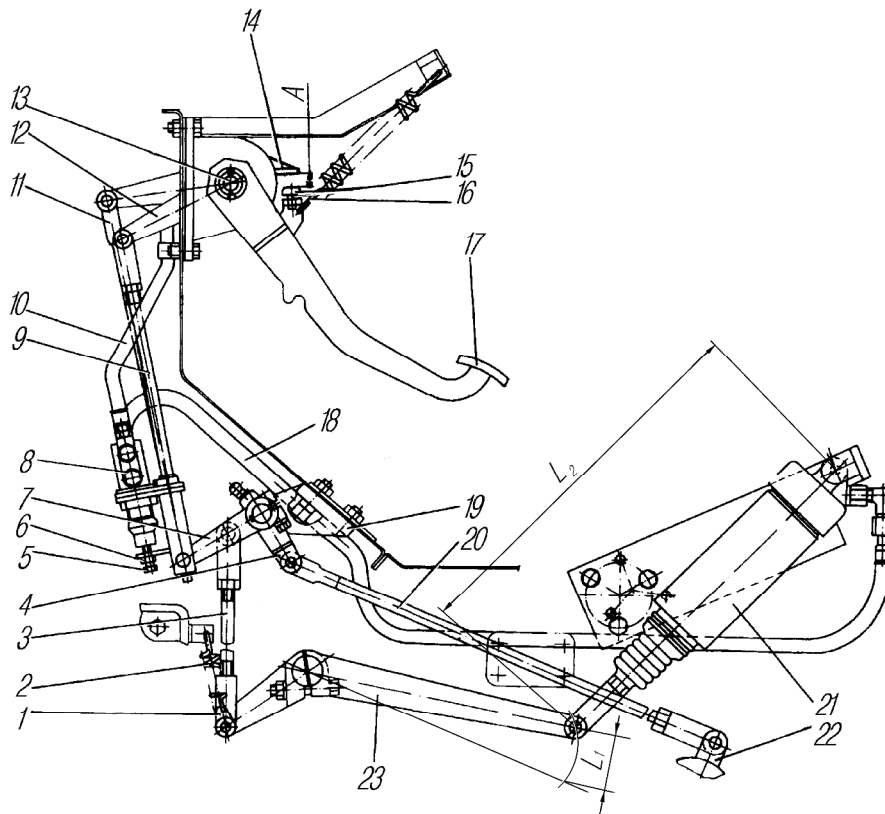
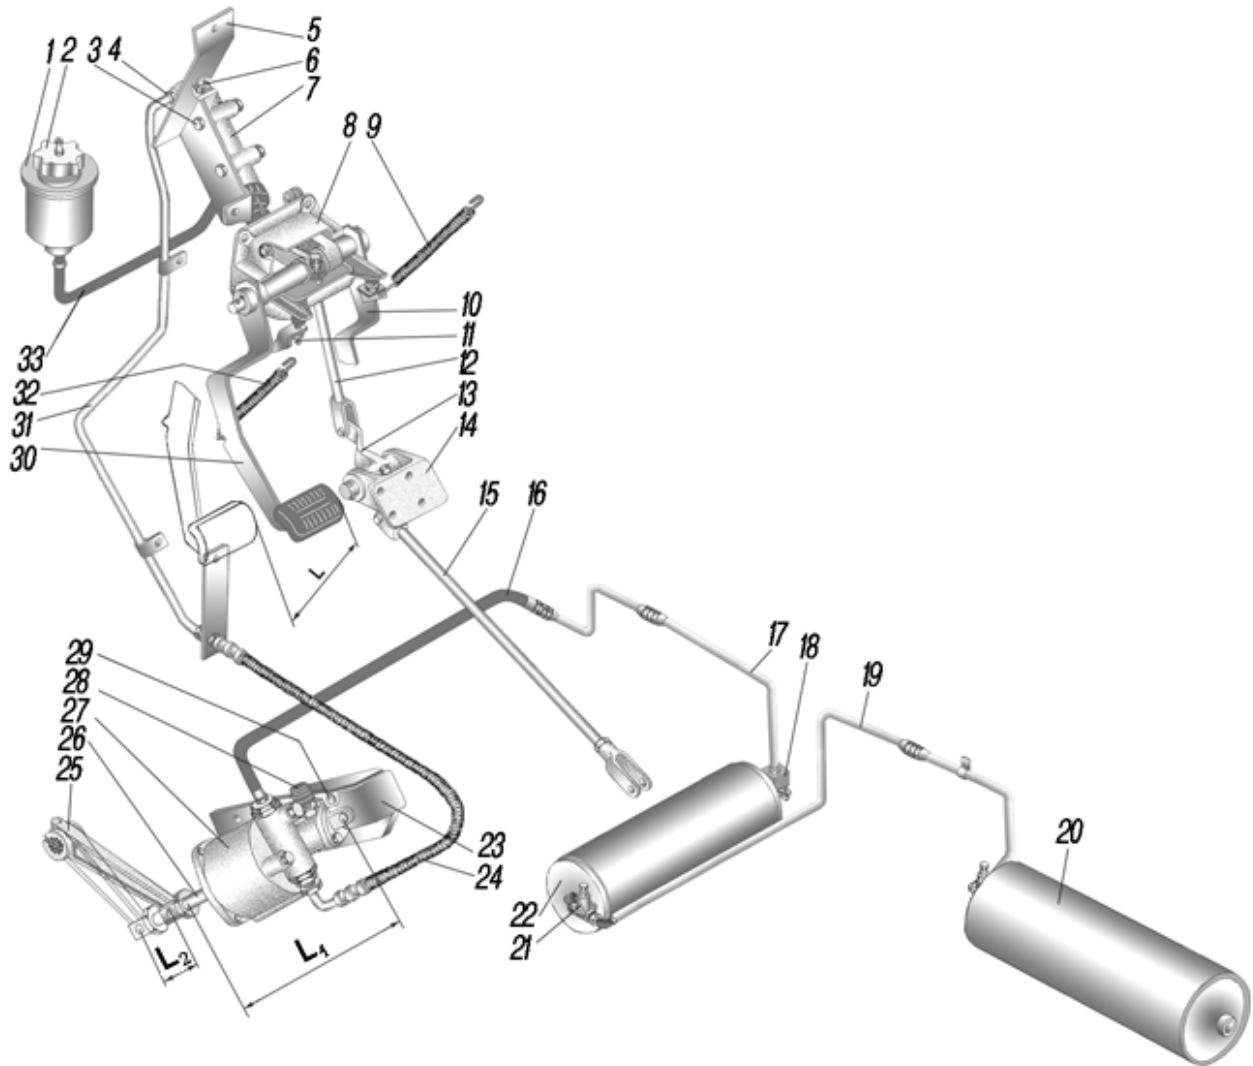
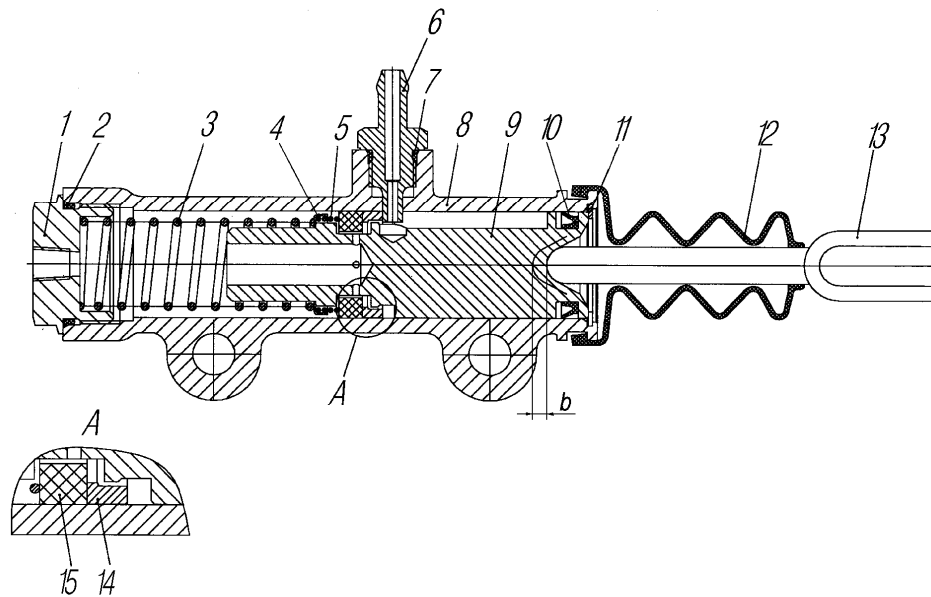

Fig. 129. Diaphragm Clutch with Air Booster and Brake Valve Control:
Fig. 130. Clutch Release Control:
Fig. 131. Master Cylinder:
When mounting the power unit with a diaphragm clutch, the clutch control design will be modified and will be of two types: mechanical clutch release control with an air booster (Fig. 129) and hydraulic clutch release control with an air - hydraulic booster (Fig. 130).
Booster air cylinder 21 (Fig. 129) is mounted on the gearbox housing and acts on clutch release fork shaft lever 23. The cylinder is controlled by air valve 8, which is mounted on tie rod 9.
Master cylinder 7 (Fig. 130) is fitted in the engine compartment and secured on a bracket to the front cab panel. Pusher 13 (Fig. 131) acts on the piston, which is connected with pedal mechanism 8 through a lever (see Fig. 130).
Clutch Master Cylinder. The design of the master cylinder is shown in Fig. 131. If repair is necessary, when assembling fit ring 14 as shown in Fig. 131. When assembling do not fail to lubricate inner surface of cylinder, rubber rings and collar with braking fluid.
- slacken the lock nut of thrust 11 (see Fig. 130) and screw the latter until it thrusts against the pedal;
- using thrust 11 adjust the pedal free travel, the clearance between pusher 13 (see Fig. 131) and piston 9 should be $b = 0.2 - 0.6$ mm corresponding to a pedal travel of 1 - 3 mm;
- due to wear of friction pads of the clutch driven disc lever 25 (see Fig. 130) is turning anti - clockwise. Minimum permissible size $L_1 = 254$ mm. The pads being in proper condition and when minimum size L_1 is reached, reposition lever 25 clockwise by one slot;